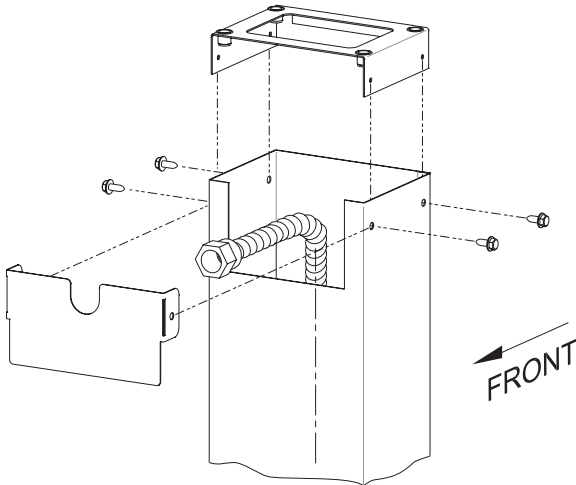

Figure 3
3. **For R3 Series Grill Heads:** Slide the Post Cover Plate onto the front of the post. Slide the Upper Bracket into the post. Secure the Post Cover Plate and Upper Bracket to the top of the square post using four #10 – ½ screws. See Figure 3.
**For Grill Heads other than R3 Series:** Slide the Upper Bracket into the post. Secure the Upper bracket to the top of the square post using four #10 – ½ screws. See Figure 3.
4. Place the grill bottom on top of the post and secure the grill bottom to the post by placing four ¼-20 x ¾ Hexhead screw in the threaded inserts that are in the upper bracket. See Figure 3.